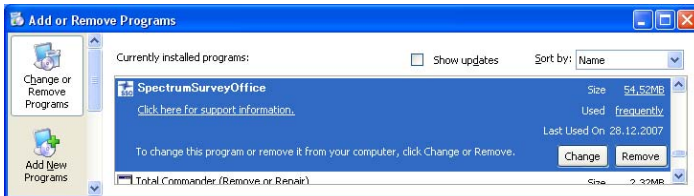

**Figure 1-6. Example of Custom Setup Installing**
4. The projection list contains the custom projections and those projections, which were highlighted in the process of installation (Figure 1-6).
5. The geoid list contains the geoids, which were used in the previous version and those geoids, which were highlighted in the process of installation (Figure 1-6).